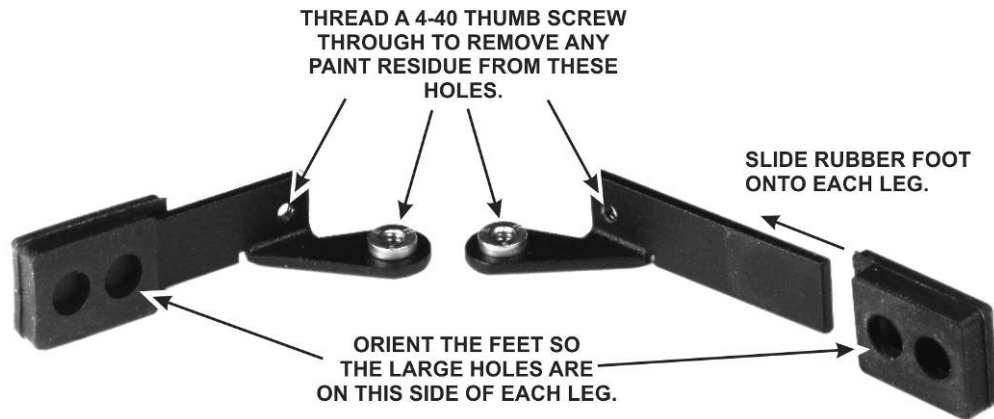

Figure 41. Preparing the Tilt Legs for Installation.
- Locate the two tilt legs and four rubber feet. Mount one rubber foot on each tilt leg as shown in Figure 41. The feet are held in place by friction. Be sure the feet are worked all the way onto each foot as shown.